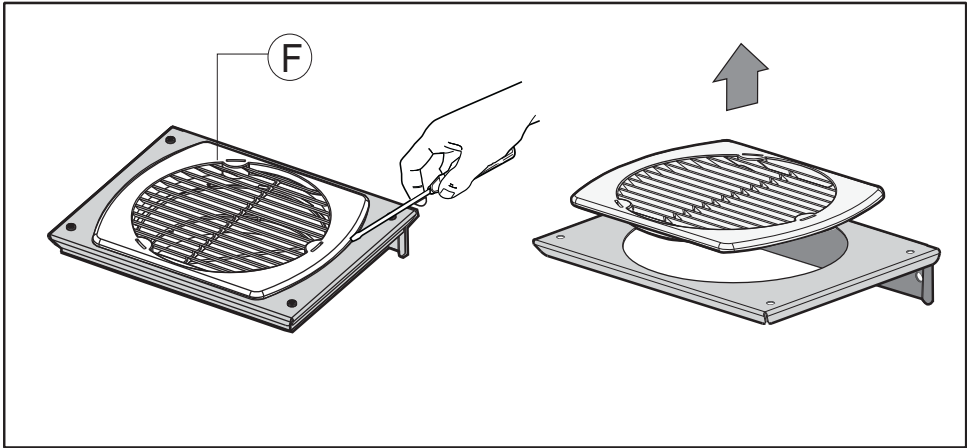

Fig.10
- If your model is a **ducted version**, remove the grille **F** (Fig. 10) only if the air exhaust tube must be passed through the inside of the air outlet bracket **E** (Fig. 9).